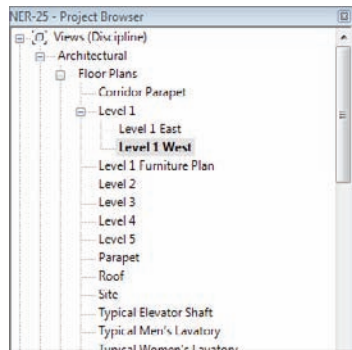

FIGURE 13.2 Creating the two views dependent on Level 1
4. Select Duplicate View > Duplicate As A Dependent. You now have two views nested under Level 1 (see Figure 13.2).
5. Right-click Dependent (2) on Level 1 dependent view.
7. Rename the other dependent view Level 1 West (see Figure 13.2).